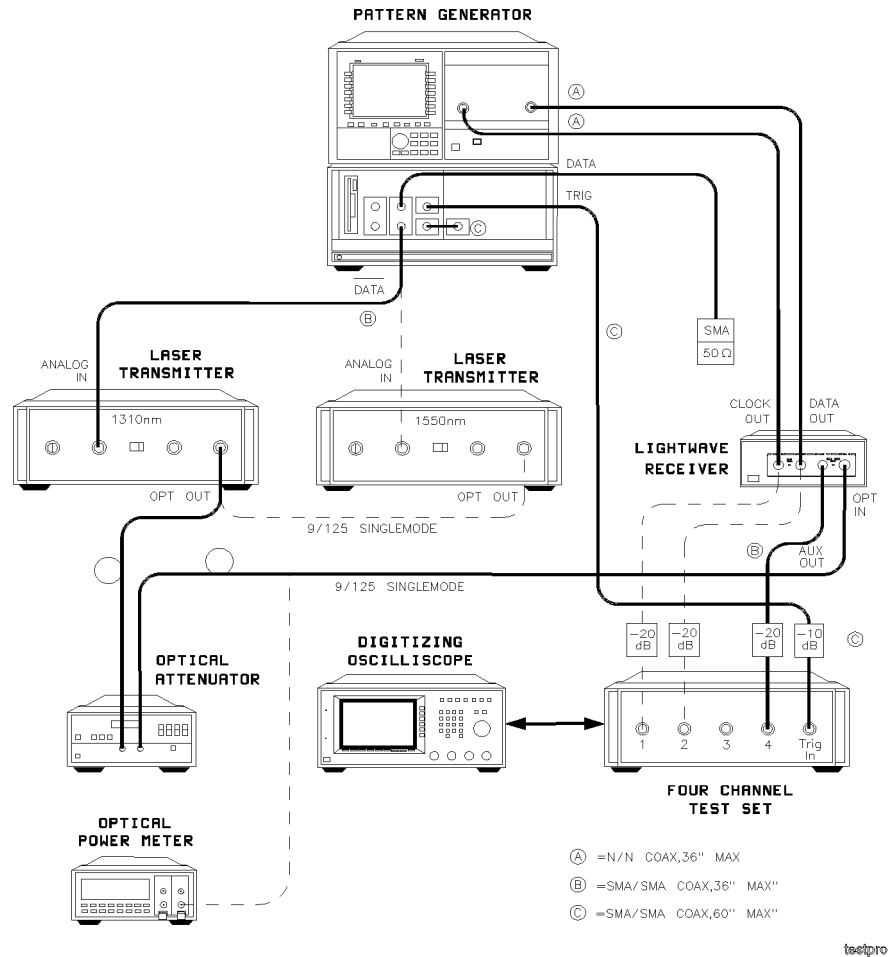

Figure 4-3. Agilent 83446A/B test equipment setup.
1. Connect equipment as in Figure 4-3.
Test setup	The electrical output signal amplitude test requires the same setup as shown in Figure 4-3. If the sensitivity and maximum operating input power tests have just been completed, the equipment is already initialized. If not, initialize as instructed in the section “Sensitivity”. The following procedure may be done with either the 1310 or 1550 nm transmitter.
Procedure	1. Disconnect all input cables from the scope 4-channel test set, including the trigger cable. Select the utility/cal menu. Execute a vertical cal procedure. Reconnect the cables as shown in Figure 4-3. 2. Disconnect the Agilent 83446A/B clock-out and data-out coax cables from the error detector and reconnect through –20 dB pads to channels 1 and 2 of the 4-channel test set, respectively. N-to-SMA adapters will have to be used. Leave channels 1 and 2 OFF, for now. Channel 4 should be ON. Set offset to 0 mV, attenuation factor to 10, and vertical scale to 150 mV/div. 3. Set the optical power into the Agilent 83446A/B to –15 dBm. Confirm that an eye diagram appears on the screen with a peak-peak voltage of approximately 0.5 Vpp. 4. On the oscilloscope, turn channel 4 OFF and turn channel 1 ON (Agilent 83446A/B Clock Out). Measure the peak-to-peak amplitude, using the same voltage histogram procedure as above (measure at the sinusoidal high/low peaks). • Clock high level mean voltage • Clock low level mean voltage • Clock high mean value minus low mean value (must be >0.400 Vpp) 5. Turn channel 1 OFF and channel 2 ON (Agilent 83446A/B data out). A data eye diagram should be displayed. Set the voltage histogram cursors near the eye mid-point and measure the mean high and low levels, and record: